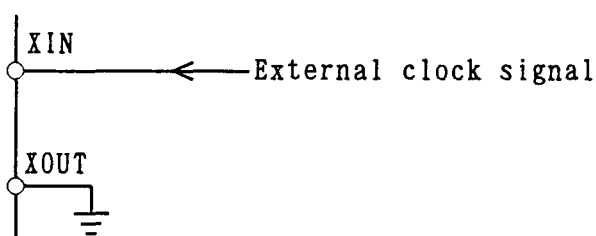

Fig.4
- For external clock operation, if the high(H) level of the input clock signal amplitude equals to or is greater than 1.5V, and the low(L) level equals to or is smaller than 0.5V, then connection should be made as shown in Fig.4.